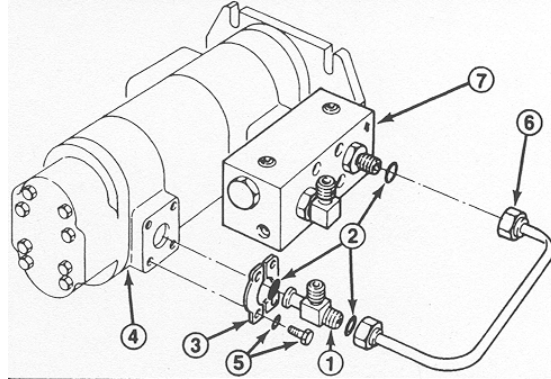

Figure 6
- Install the T-fitting and the O-ring in the port at the left rear of the pump, using existing two-piece mounting flange, (4) lockwashers and capscrews (Fig. 6).
- Connect the U-shaped hydraulic tube and the O-rings to the end of the T-fitting and the straight fitting at the front of the flow combining valve (Fig. 6).